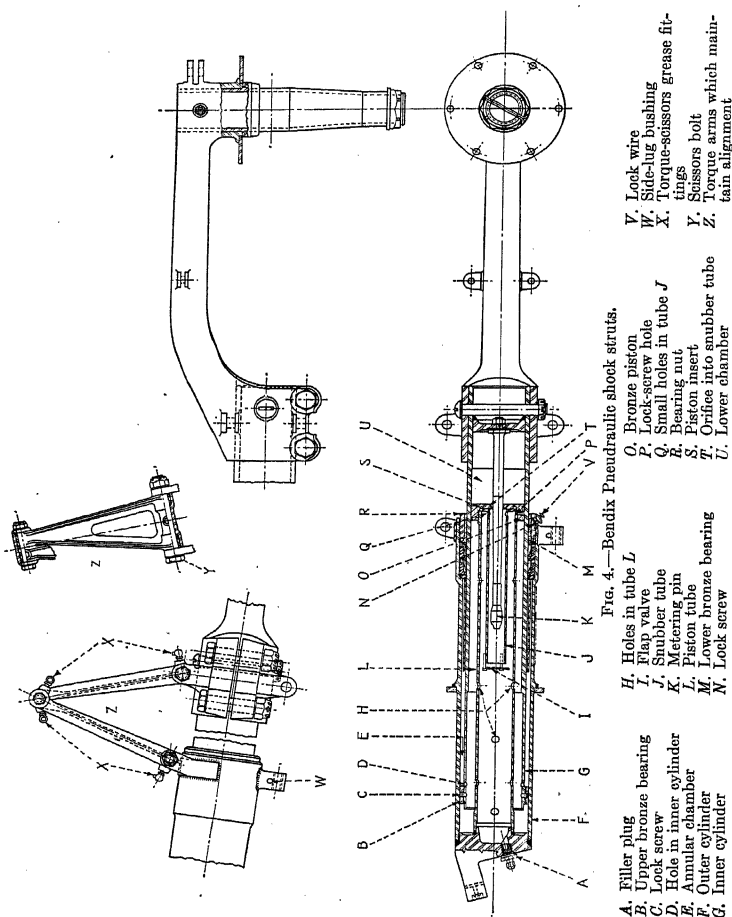

Fig. 4.—Bendix Pneumatic shock struts.
Bendix shock struts combine pneumatic and hydraulic control. There are two telescoping chambers, as in Fig. 4, which also give the names of the various parts. The lower chamber is always filled with fluid, either that made for Bendix, or the Lockheed brake fluids, No. 5 or 21. No other should be used.
*Disassembly, Inspection, Repair, Reassembly, and Storage.*—It is necessary to remove the units for inspection and overhaul, after certain intervals, depending upon service conditions and the operation of the struts. The performance of the shock struts bears a definite relationship to the condition of the other component members of the landing gear unit. So when inspecting and overhauling the struts, routine maintenance of the wheels, brakes, tires, etc. should be made. Suggestions outlined below may be followed in disassembly, inspection, repair, and reassembly of the struts. Figure 4 will make these clear.